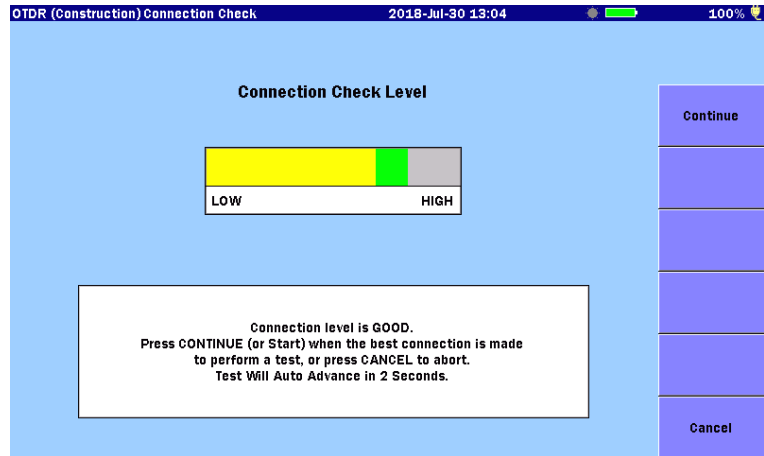

Figure 6.5-1 Connection Check Screen
- When Connection Check is On, the Connection Check Screen is displayed (Figure 6.5-1). Touch **Continue** after making sure that the connection state is optimal.
12. When **File Save Verify** is selected on the OTDR (Construction) Setup Screen (Figure 6.5-1), the Save screen is displayed.